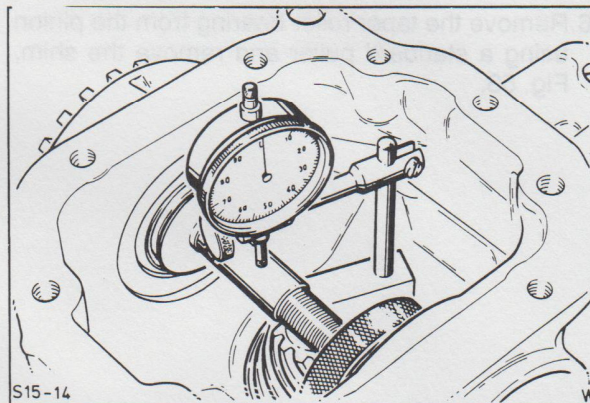

Fig. 50. Dial test indicator reading at '0' position.
24. Position the mounting block and dial test indicator on the centre of the drive pinion end face and slowly move the plunger of the dial test indicator transversely across the gauge bar, Fig. 50.